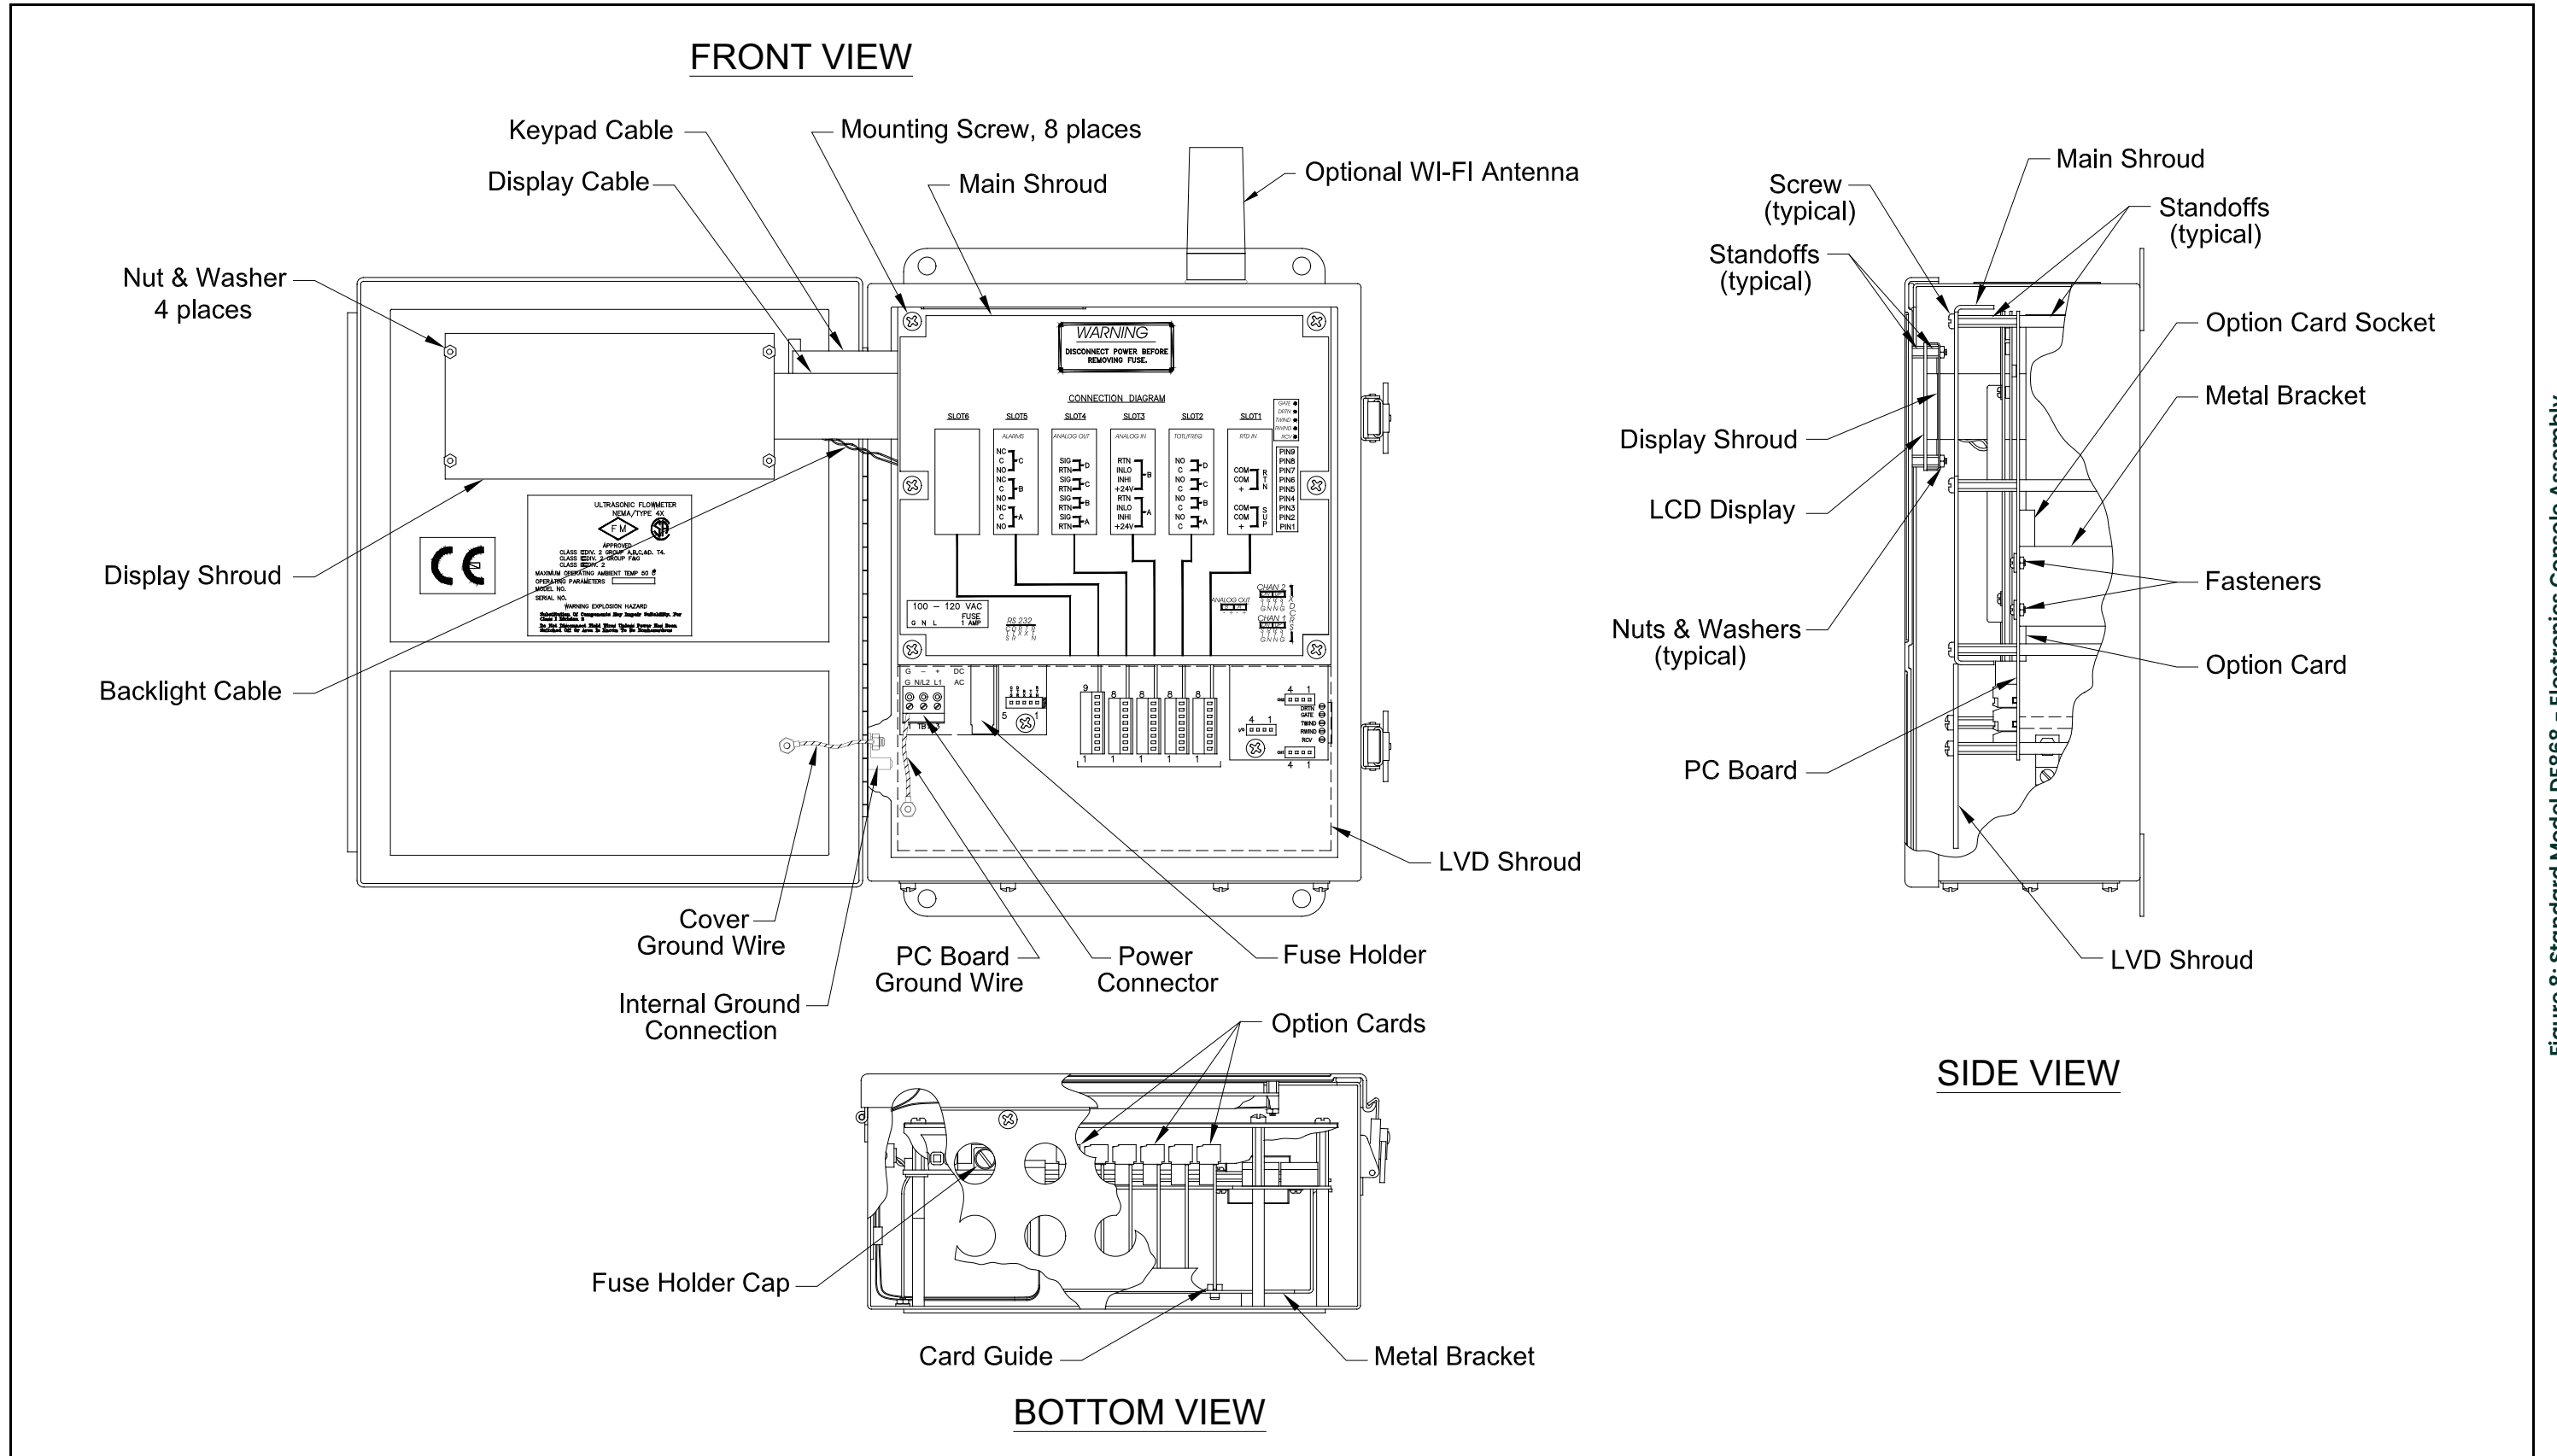
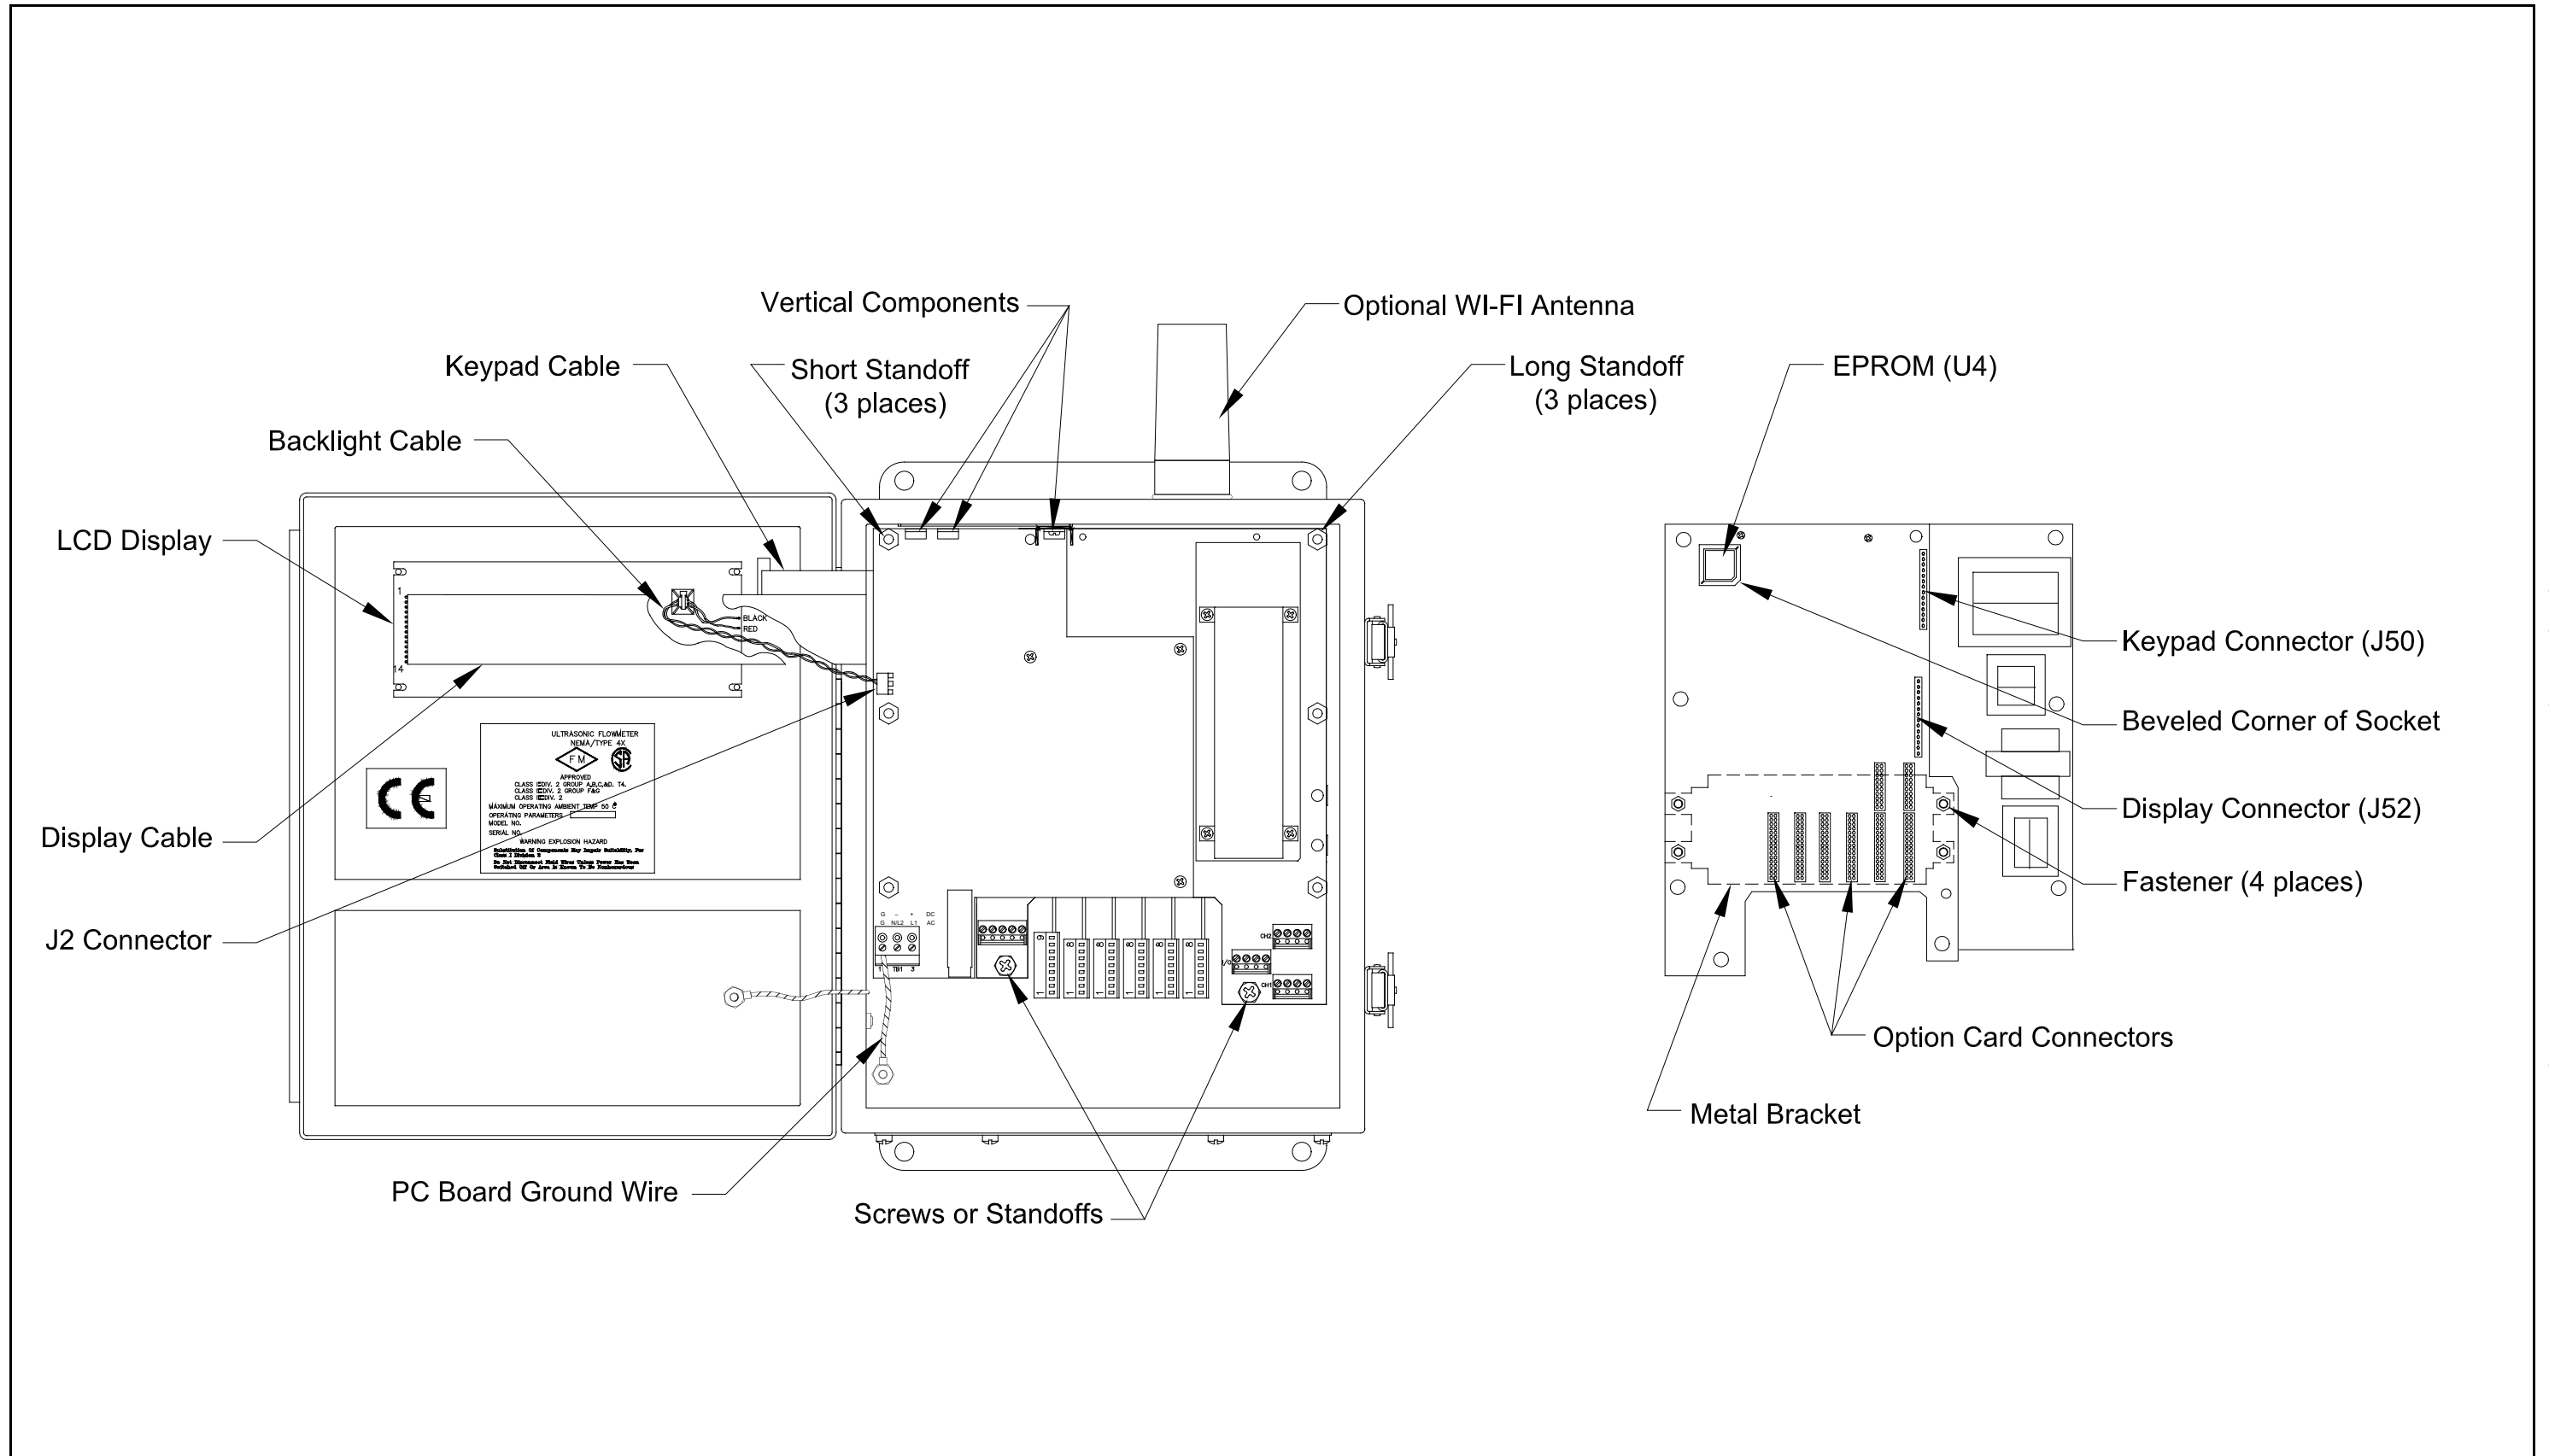

Figure 8: Standard Model DF868 - Electronics Console Assembly
Figure 9: Standard Model DF868 – Printed Circuit Board Assembly
2. Locate the black plastic fuse holder that is mounted on the printed circuit board between the power terminal block (TB1) and the RS232 terminal block. As shown in Figure 8 on page 35, the fuse holder extends below the main aluminum shroud, and the fuse holder cap is located on the bottom of the fuse holder.
All of the remaining maintenance procedures discussed in this chapter require removal of the printed circuit board. Refer to Figure 8 on page 35 and Figure 9 on page 36 while completing the following tasks:
**CAUTION!** During this procedure, be very careful not to damage the upright components along the top edge of the printed circuit board (see Figure 9 on page 36). Severe or repeated bending will break the component leads.
The Model DF868's *User Program* is stored on an erasable programmable read only memory (EPROM) chip. The EPROM, which is designated as component **U4**, is located in the top left corner of the rear of the printed circuit board. See Figure 9 on page 36 for a rear view of the printed circuit board. EPROM replacement may be required to replace a defective chip or to upgrade to a newer software version. To replace the EPROM, complete the following steps:
To install an option card, refer to Figure 9 on page 36 and complete the following steps:
- Place the metal bracket over the option cards, making sure that all option cards are aligned with the plastic card guides in the bracket. Secure the metal bracket to the printed circuit board with the snap rivets provided. See the installed assembly in Figure 8 on page 35.
The Model DF868's measurements are displayed on a two-pane LCD graphic display panel. The LCD display normally provides years of dependable service, but it is easily field-replaceable when necessary. To replace the LCD display, see Figure 8 on page 35 for the component locations, and complete the following steps:
- Place the new LCD display assembly over the mounting studs on the console cover and fasten it in place with the four standoffs. Make sure that the LCD display assembly is oriented as shown in Figure 9 on page 36.
Whether the printed circuit board was removed for replacement or for one of the other procedures discussed in this chapter, reinstallation of the printed circuit board is the final step in the process. Refer to Figure 8 on page 35 and complete the following steps:
**CAUTION!** During this procedure, be very careful not to damage the vertical components along the top edge of the printed circuit board (see Figure 9 on page 36). Severe or repeated bending of these components will break their leads.
1. Position the printed circuit board within the electronics console with the top edge tilted forward. Insert the display ribbon cable and keypad ribbon cable connectors into their sockets on the rear of the printed circuit board. See Figure 8 on page 35 and Figure 9 on page 36 to identify the cables and sockets. Note that the keypad cable connects to the upper socket and the display cable connects to the lower socket.